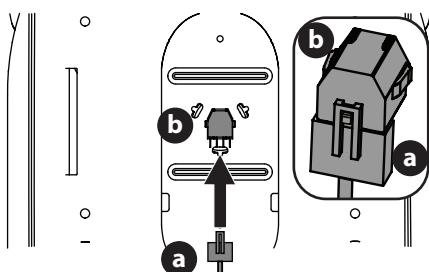

Figure 8
- if necessary, securely connect the seat switch wiring harness (a) to the seat switch (b) (Figure 8). Secure excess wire away from pinch points before continuing.